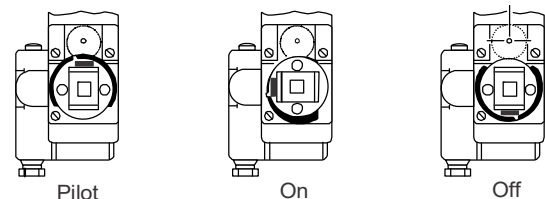

Figure 2: Model H43G Handle Positions
2. For Model H43G_, pilot and the main burner gas are shut off when the valve is in the "OFF" position. To turn the valve off from the pilot position turn the valve counter clockwise to the On position, push in the handle compressing the spring completely, and continue turning counter clockwise until the valve reaches the off position. (see Figure 2 for handle positions). The H43G model does not have a lock button. Wait at least 5 minutes for unburned gas to escape from the appliance. To go to the "PILOT" position from the "OFF" position, rotate the handle clockwise 180°. Do not push down while doing so. To reset the power unit, push down on the reset button for 30 to 45 seconds until the pilot remains burning. Rotate the handle counter clockwise 90° to open gas to the main burner.